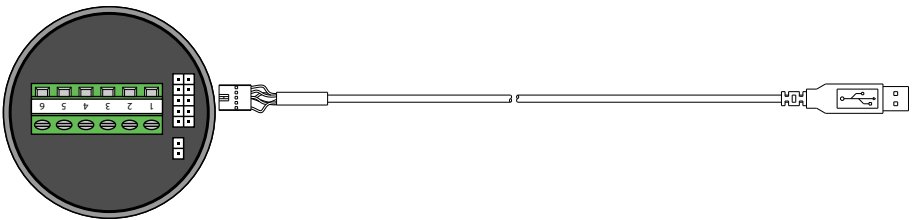

Figure 4: Interface connection
3. Connect the opposite end of the cable to the USB port of a PC. See Figure 4.